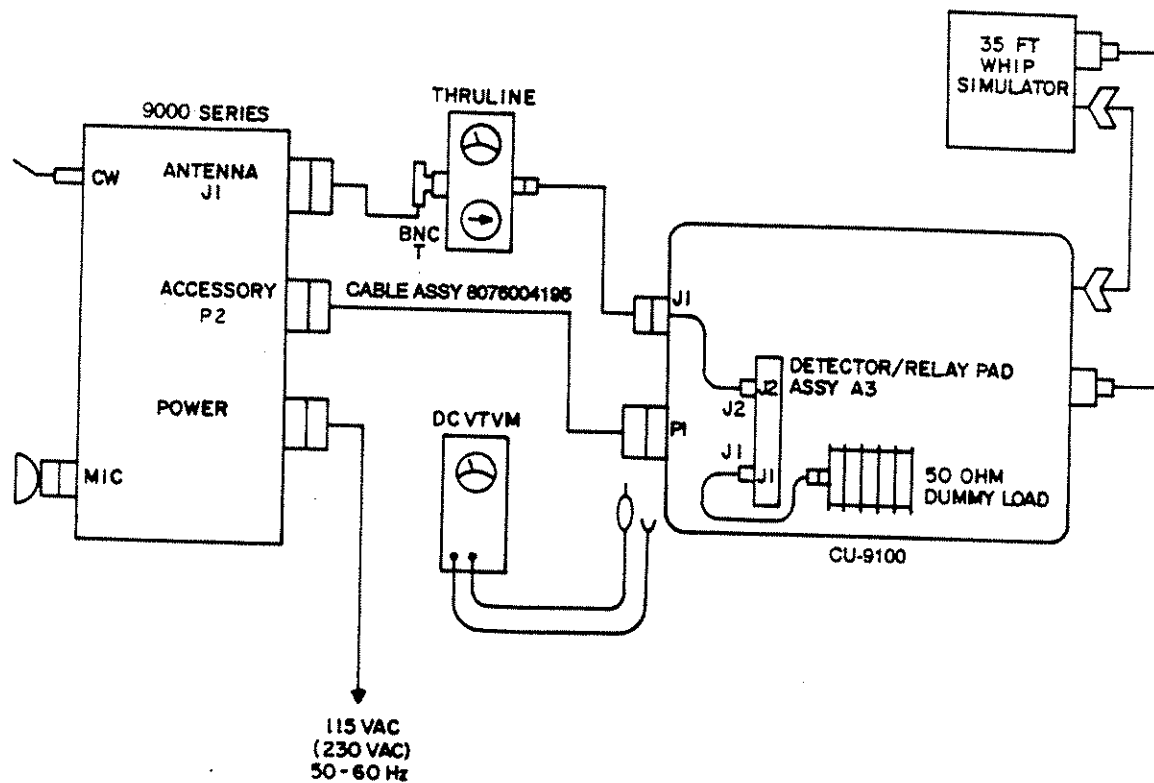

Figure 5.7 Detector/Relay Pad Alignment Setup (Forward Power Detectors).
2. The two (2) ground strap connections and FAN plug P3/P4 to the A3A2 Pad Board (these will be left disconnected during the alignment procedure).
- B. Once the A3 board is reinstalled on its extender board, make the following connections for ALIGNMENTS A and B. See Figure 5.7.